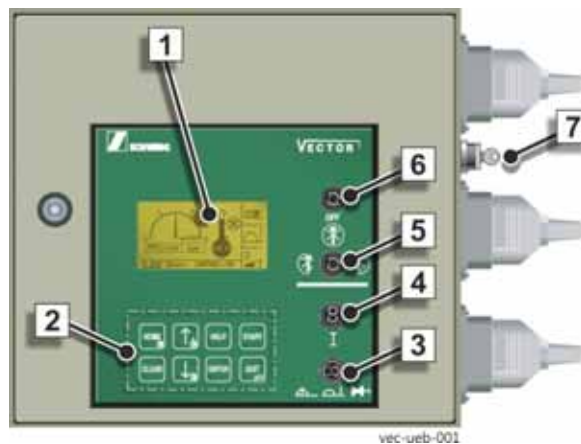

Fig. 90
- To do this, insert the key into the key-operated switch (7) (**Fig. 90**) and switch on the EMERGENCY STOP bypass function. The key cannot be removed in this position.
- Return the key-operated switch (7) (**Fig. 90**) to the neutral position and remove the key before leaving the jobsite.